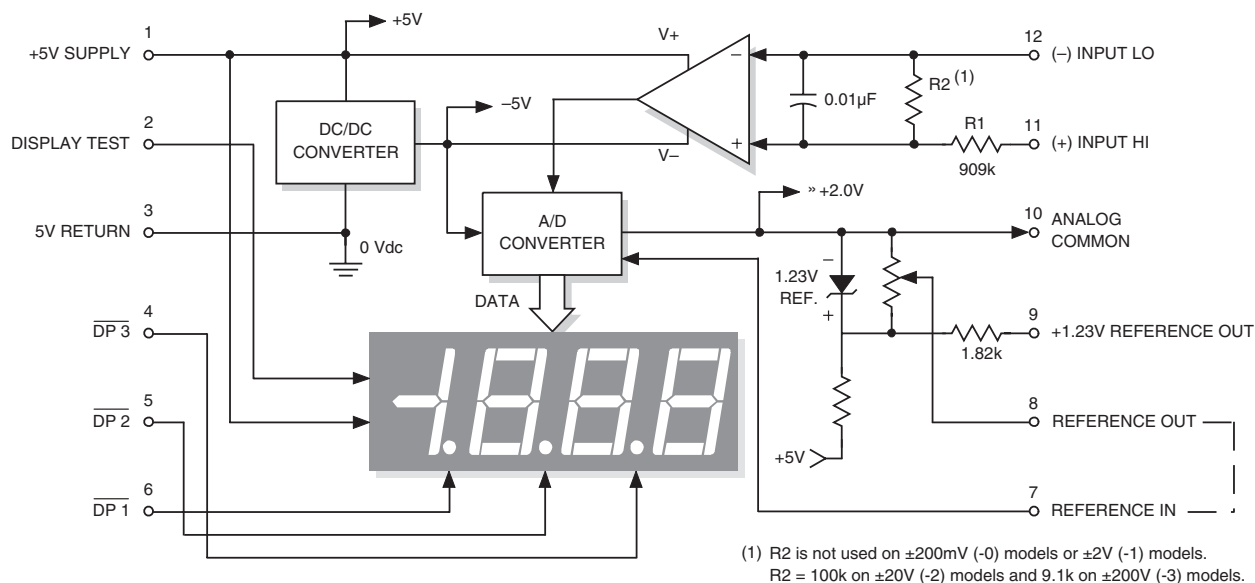

Figure 1. DMS-30PC Series Simplified Schematic
① Applies for transient or continuous overvoltages applied to (+) INPUT HI (pin 11) with (–) INPUT LO (pin 12) properly connected. Pin 12 is not overvoltage protected (see Figure 1). Voltages applied to pin 12 should not exceed the supply voltage.
② See Technical Notes.